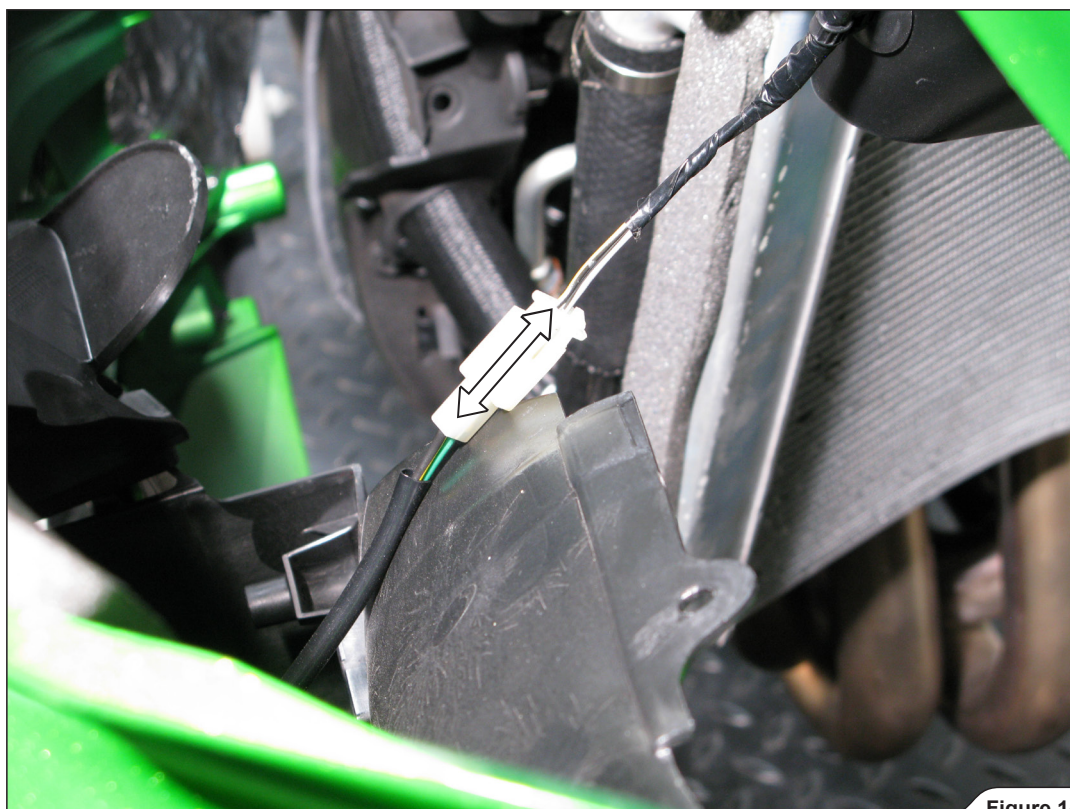

Figure 14
8. **For Optional Headers only:** partially remove the cowling, disconnect the turn indicator's connector and carefully remove the cowling off the motorcycle. Perform the process on both sides of the motorcycle (**Figure 14**).